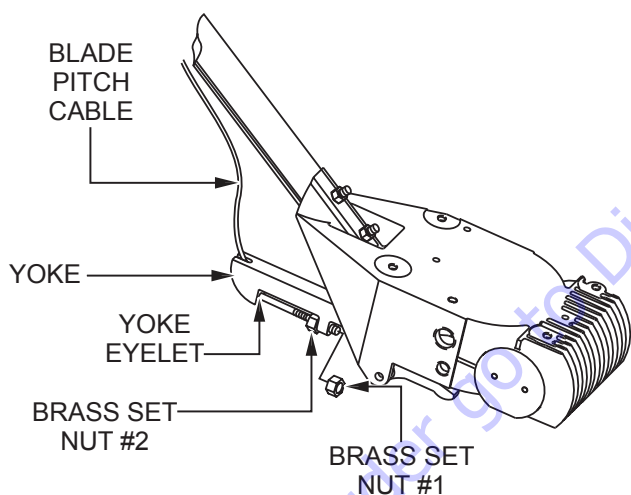

Figure 14. Cable Yoke Attachment
- Insert the blade pitch cable end through the yoke eyelet (Figure 14). Tighten brass set nut #1 by hand to remove all slack from the cable.